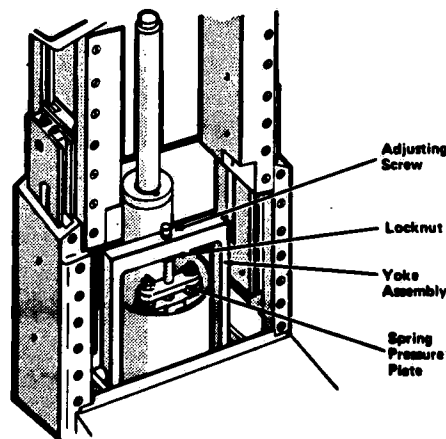

Figure 5-3. PUMP ASSEMBLY.
7. Loosen the locknut under the yoke assembly. Also remove the two pairs of nuts from the spring pressure plate (Figure 5-3).